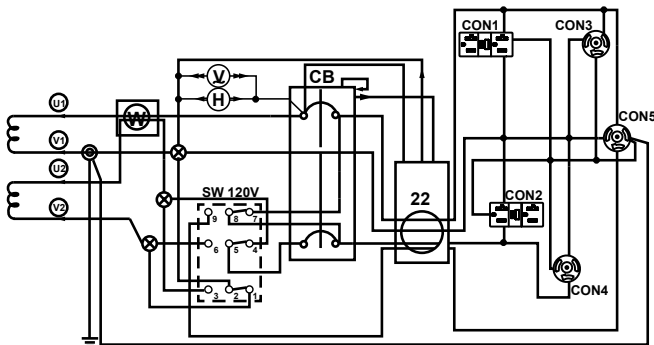
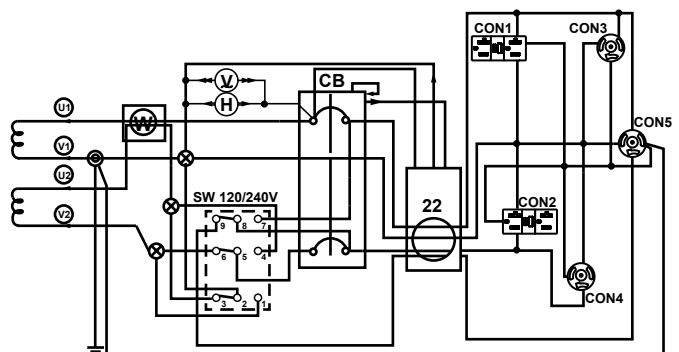

Figure 10. 120V Full Power Switch Simplified Diagram (Up Position)
Figure 11. 240/120V Full Power Switch Simplified Diagram (Down Position)
17. **Full Power Switch** – The generator is provided with a full power switch. Figure 10 and Figure 11 show simplified wiring diagrams of the dual voltage system.